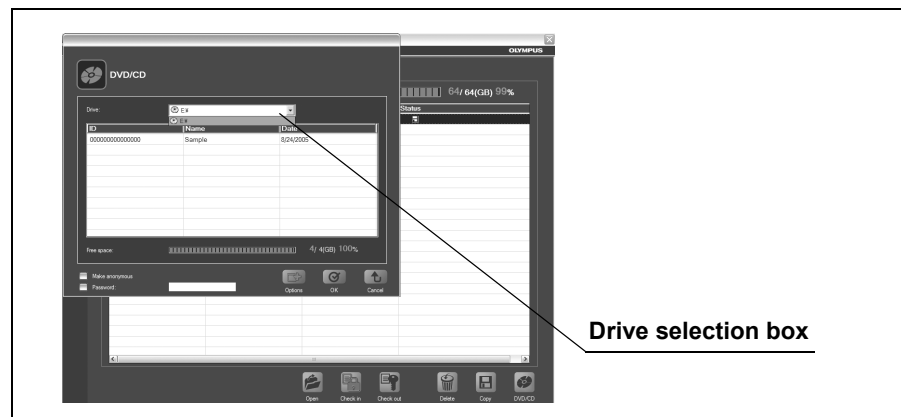

Figure 6.95
2. Use the drive selection box to select the destination drive to write the data to (see Figure 6.95). The amount of available disk space on the selected drive is displayed.